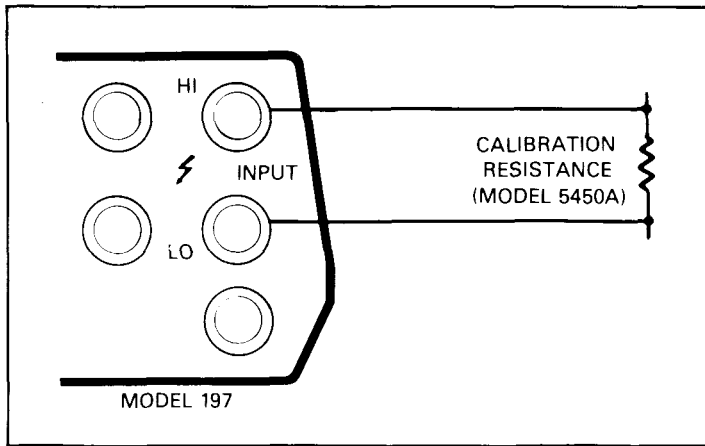

Figure 3-4. Connections for 200k through MΩ Ranges Verification (2-Terminal)
7. Connect a 190kΩ calibration resistor to the instrument as shown in Figure 3-4. Switch the instrument to the 200kΩ range. Verify that the displayed reading is within the limits specified in Table 3-4. Note that the 2-terminal configuration may be used on the 200kΩ and higher ranges.